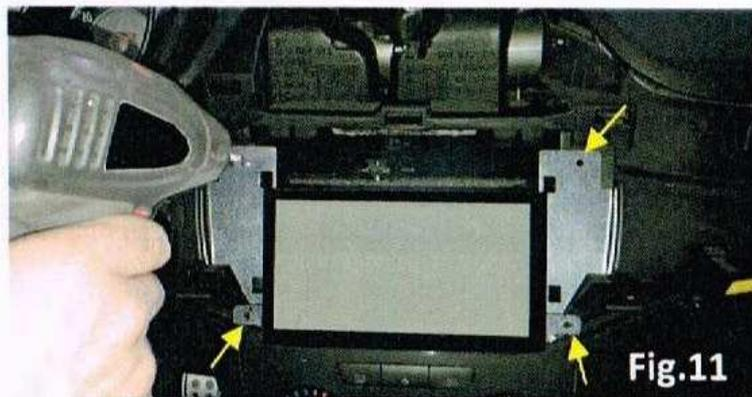
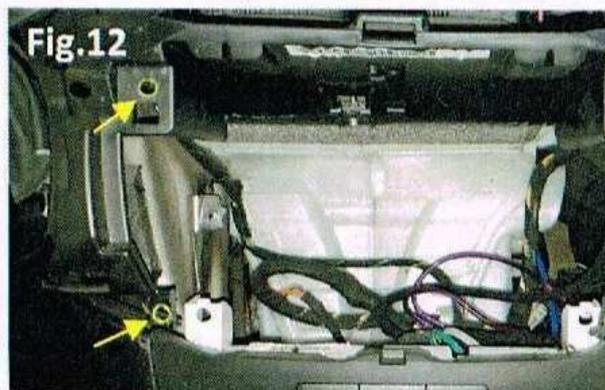

Fig.11
Fig.12
Montare staffe "B" e la radio aftermarket al cruscotto e forare con punta  $\varnothing 4$  dove indicato (Fig.11). Allargare i fori, creati precedentemente, con una punta  $\varnothing 9$  (Fig.12).
*Fit metal brackets "B" and the aftermarket radio to the dashboard and drill  $\varnothing 4$  where indicated (Fig.11). Enlarge the previous holes at  $\varnothing 9$  point (Fig.12). Apply the n.6 OEM clips (Fig.7 and Fig.9) to the new enlarged holes and to the air conditioning (Fig.13).*